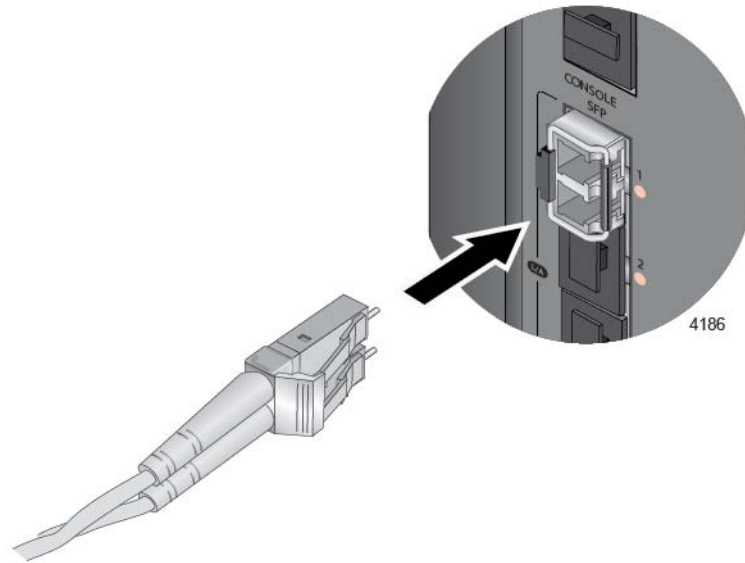

Figure 29. Connecting a Fiber Optic Cable to an SFP Transceiver
6. Connect the fiber optic cable to the transceiver. The connector on the cable should fit snugly into the port, and the tab should lock the connector into place. Refer to Figure 29 on page 81.